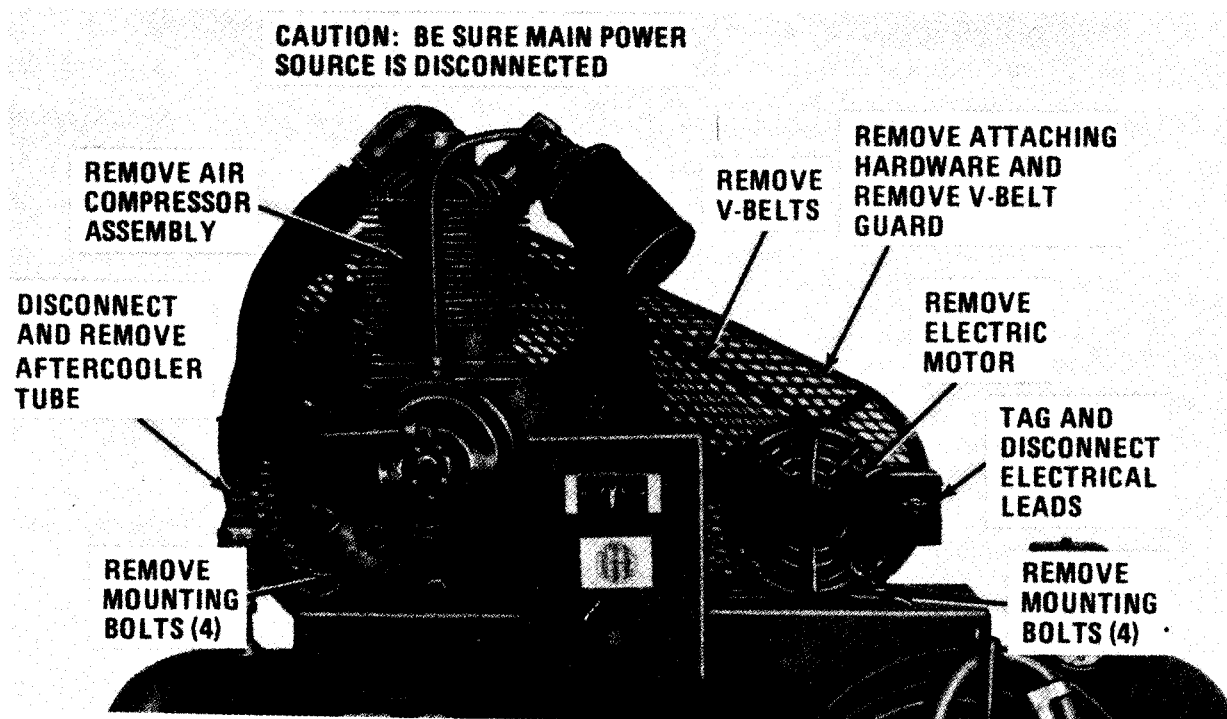

Figure 5-4. Electric motor and compressor, cleaning, V-belt removal and installation.
a. Loosen motor mounting screws (fig. 5-4) securing motor to receiver. Move motor toward compressor, then lift belts off of the pulley .
a. Loosen motor mounting screws (fig. 5-4) securing motor to receiver. Move motor toward compressor, then lift belts off of the pulleys.